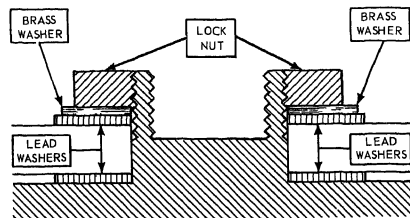

Figure 10-13.—Expansion chamber secured to the bottom of the compass bowl.
11. Figure 10-13 shows a typical method of securing the expansion chamber to the compass bowl. Beneath the lock nut is a